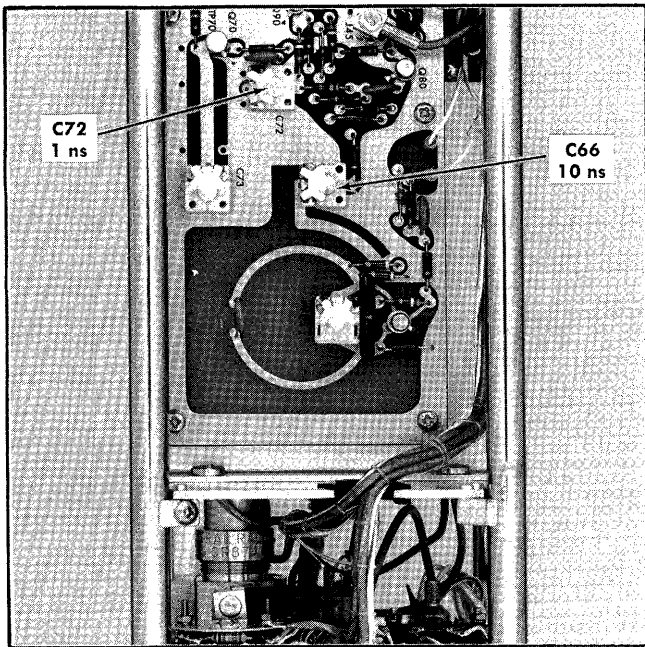

Fig. 6-20. Location of amplitude adjustments for steps 11 and 12.
c. If the peak-to-peak amplitude is not 100 mV ±20% (5 cm ±1 cm), adjust C66 (see Fig. 6-20 for location) for an amplitude of 5 cm ±1 cm.
12. Adjust 1 ns Period Amplitude, C72 ❶
c. If the amplitude of the Sine Wave display is $5\text{ cm} \pm 1\text{ cm}$ ($100\text{ mV} \pm 20\%$) no adjustment is recommended as a change in capacity of C72 (location shown in Fig. 6-20) especially near minimum, will affect the frequency of the 1 ns period. If adjustment of C72 is necessary to obtain a display amplitude of $5\text{ cm} \pm 1\text{ cm}$, repeat step 10.